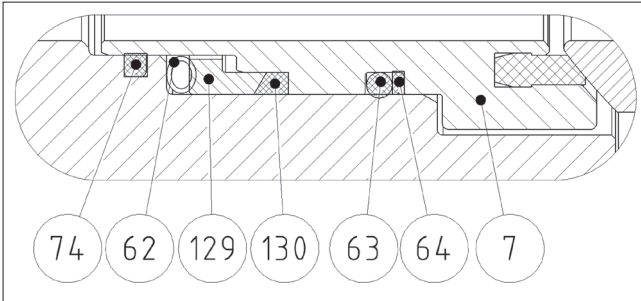

Fig. 13
- Place the back seal (O-ring) (63) into the groove in the seat. See Figure 13.
- Place the back-up rings (64) made of PTFE strips at the side of the O-ring. To ensure that the seam becomes flexible, the strip must have slanted ends.
- Place the backseal (130) and ring (129) on the seat.
- Place the spring (62) on the seat (7). Connect the ends of the spring.
- Place the solids proof seal (74) into the groove in the body and body cap.